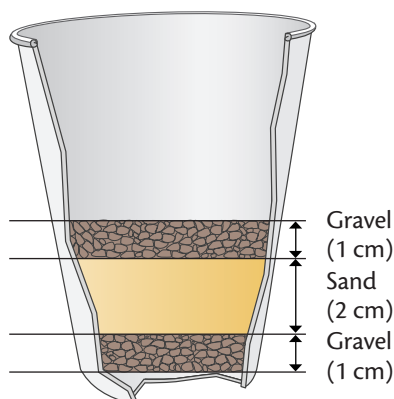

Figure 4 Sand filtration.
- Add pre-moistened gravel and sand layers to the cup as shown in Figure 4. (The bottom layer of gravel prevents the sand from